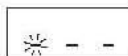

fig.1
- ◆ Password set: In normal temperature state, press key "set" at least 3 seconds to set password. (fig.1), the first figure flash, press "▲" or "▼" to input the first password (0-9), then press key "⚙" for confirmation. At the same time the screen display as the fig.2, then following the first step to input and confirm the second and third password until it display F01 in case the password is correct; If input an error password it will automatically return to the Fig.1 for the input again. If input error password for three times or no operation in 30 seconds it will automatically return to temperature displaying state. Enter into menu and display P01-P03 to change the password following the above step.